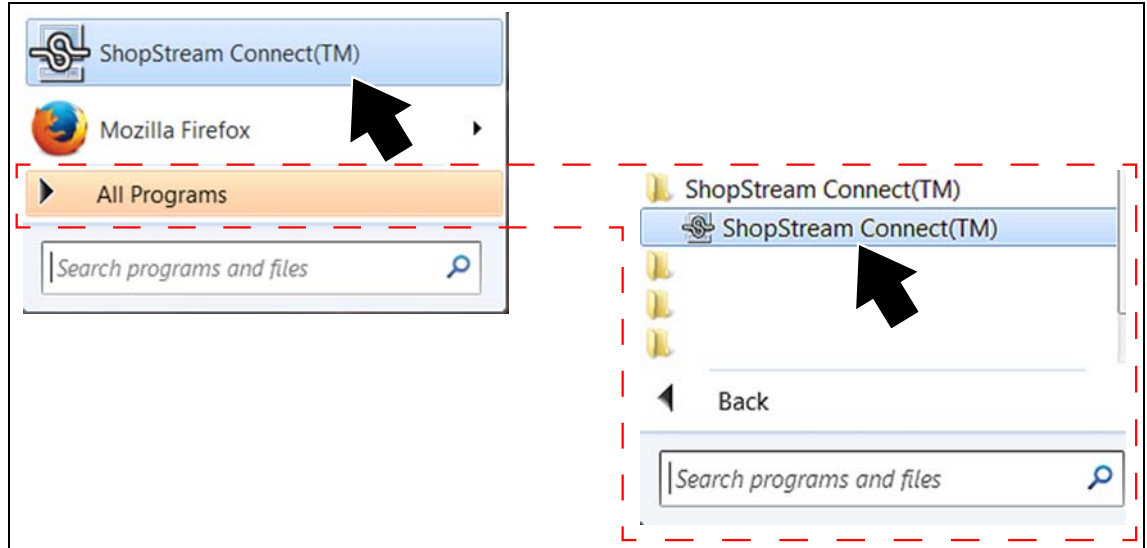

Figure 4-7 Typical Windows 7 start menu selections
- Select directly from the Start Menu (Figure 4-7 left) programs if available, or
- Select **Start > All Programs > ShopStream Connect > ShopStream Connect** (Figure 4-7 right).